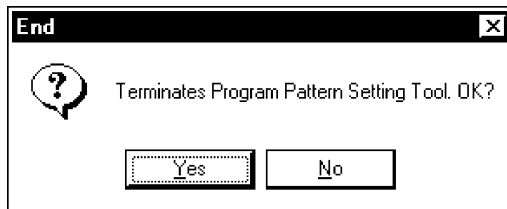

Figure 9.1.5 End Dialog Box
- (3) The message box in Figure 9.1.5 appears for confirmation.